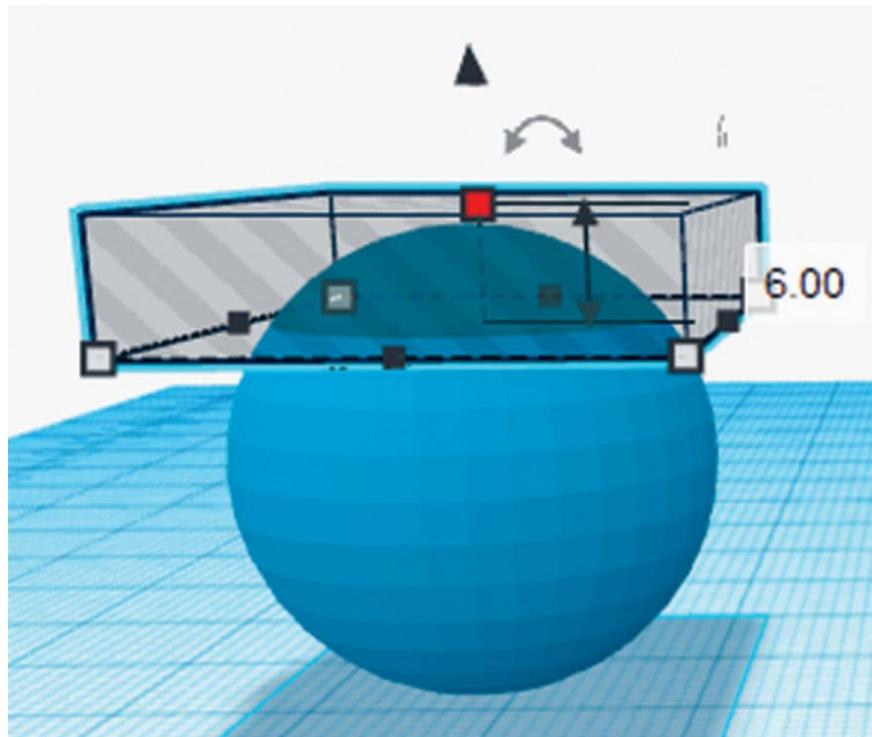
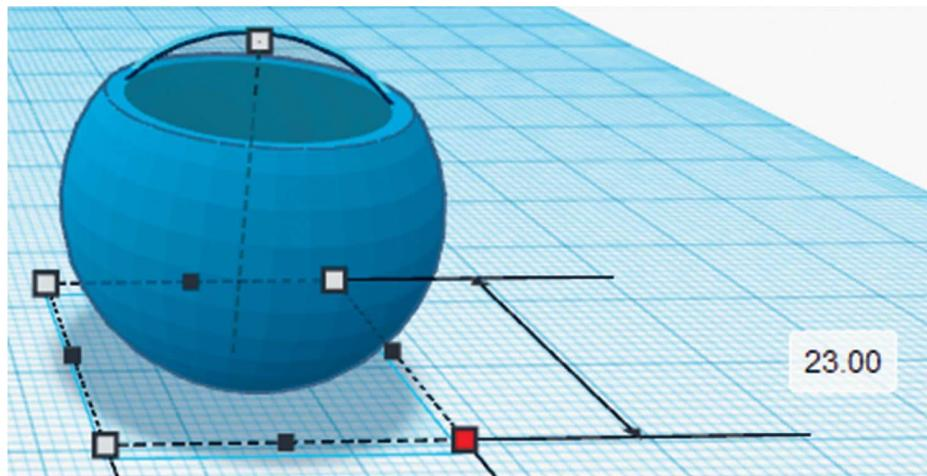

FIG. 1: Position a rectangular hole over a sphere to slice off the top of the sphere.
FIG. 2: Group the rectangular hole and the sphere.
1. Create a sphere, 25 mm diameter, using the **Sphere** tool. Then slice about $1/4$ off the top using a **Rectangular Hole** tool as shown in fig. 1. Group the rectangular hole and the sphere together to get the initial socket frame (fig. 2).
2. Now we will hollow out the socket frame. Create a **Sphere Hole** with 23 mm diameter. Move it so it fits inside the sphere from step 1 evenly on all sides (concentric) (fig. 2). Group the internal hole-sphere and external socket spheres to form the hollowed-out socket.